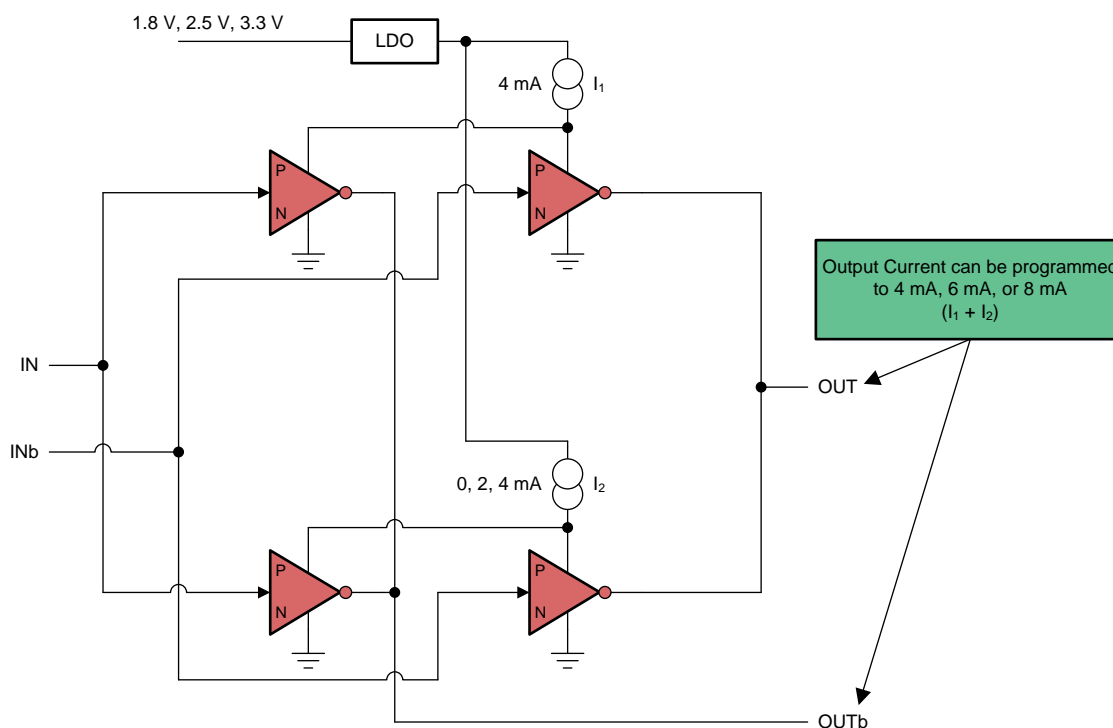

Figure 62. Structure of AC-LVDS, AC-CML, and AC-LVPECL Output Stage
The AC-LVDS, AC-CML, and AC-LVPECL output structure is given in Figure 62 where the tail currents can be programmed to either 4 mA, 6 mA, or 8 mA to generate output voltage swings that are compatible with LVDS, CML, or LVPECL, respectively. Because this output structure is GND referenced, the output supplies can be operated from 1.8 V, 2.5 V, or 3.3 V, and offer lower power dissipation compared to traditional LVDS, CML, or LVPECL structures without any impact on jitter performance or other AC or DC specifications. Interfacing to LVDS, CML or LVPECL receivers are done with just an external AC-coupling capacitor for each output. No source termination is needed since the on-chip termination is automatically enabled when selecting AC-LVDS, AC-CML, or AC-LVPECL for good impedance matching to 50-Ω interconnects.
- The latency is deterministic and its variation is no more than 1 VCO clock cycle and an example scenario is illustrated in Figure 62.